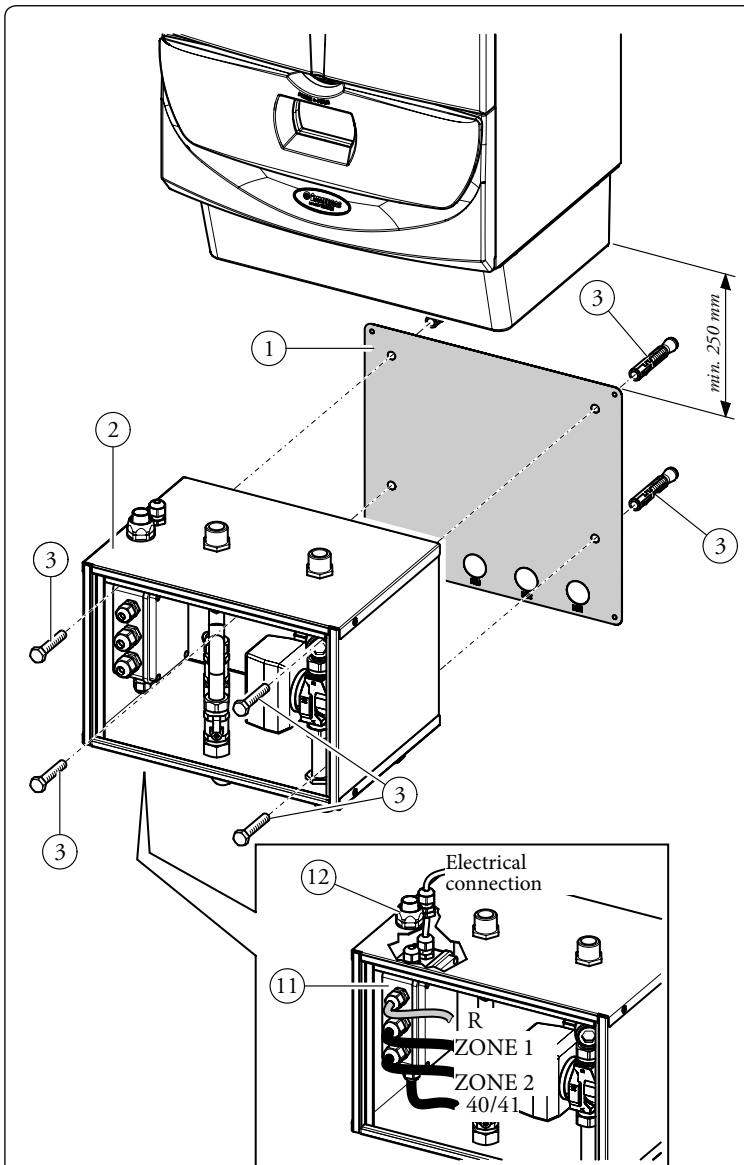

Fig. 1
- Place the template (1) on the wall and mark the kit fixing points and hydraulic connections indelibly.
- Drill the wall in correspondence to the marked fixing holes and block the kit (2) to the wall using the specific expansion plugs d. 10 x 50 (3) Fig.1.